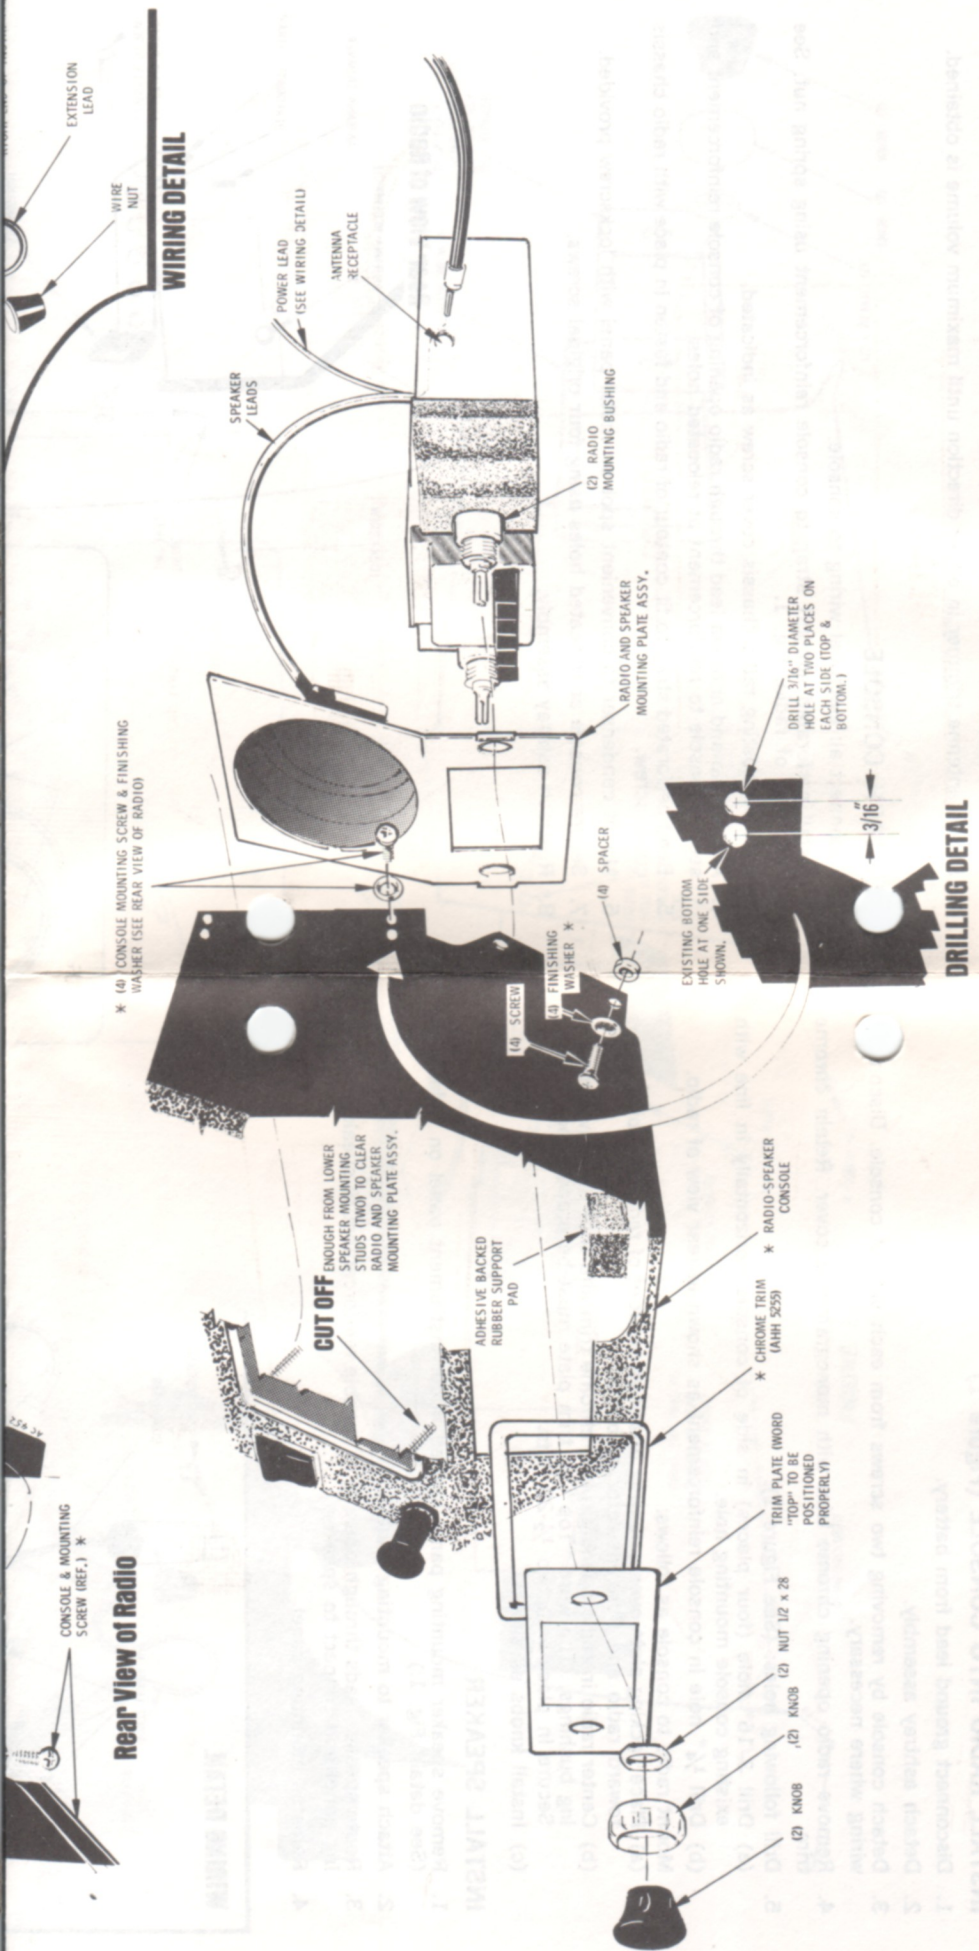

FIGURE 3.
INSTALL RADIO & SPEAKER (Figure 3)
4. Drill 3/16" diameter hole at two places on each side of console as shown in "Drilling Detail" of Figure 3.
- (A) Cut terminal lug off radio power lead and off condenser lead. Strip 3/8" of insulation from cut end of wires. Connect 12" extension lead, power lead and condenser lead together with wire nut. See Wiring Detail, Figure 3.
- (B) Locate appropriate 4-terminal female connector in harness at right side of vehicle. (Connector has three white leads connected to it leaving one open female terminal.) Plug bullet terminal of power lead into open terminal of 4-terminal connector.
1. Cut and bend perforated strap as indicated in "Rear View of Radio" detail, Fig. 3.